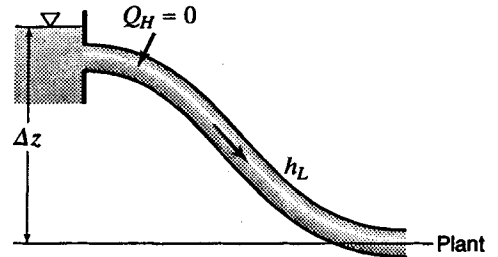

Figure X5.6.3
5.6.4 *The pipeline shown in Fig. X5.6.3 supplies water to a hydroelectric power plant, the elevation of which is 650 m below the level of the water at intake to the pipe. If 8 per cent of this total, or 52 m, is the head loss in the line, what will be the value of ΔI in J/N if there is no heat transfer, and what will be the rise in temperature?*